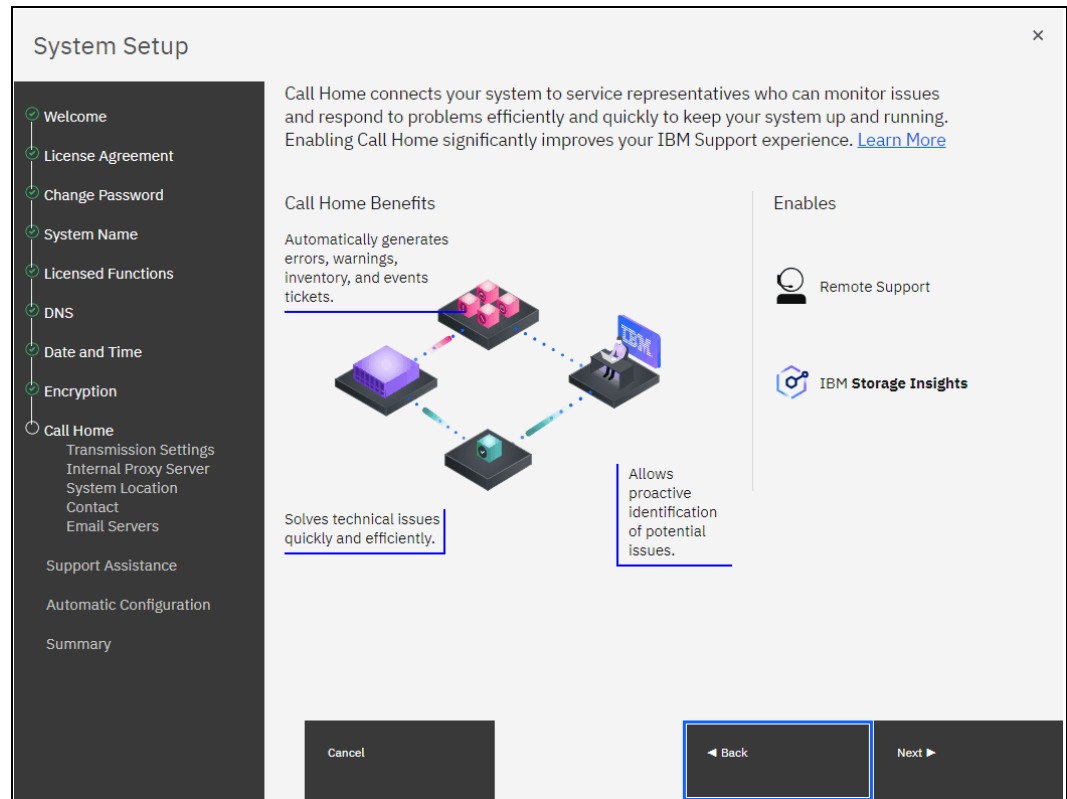

Figure 2-33 Change Call Home settings
22. If you wish to modify your previously entered Call Home settings, you can do so here. See Figure 2-33 on page 44.